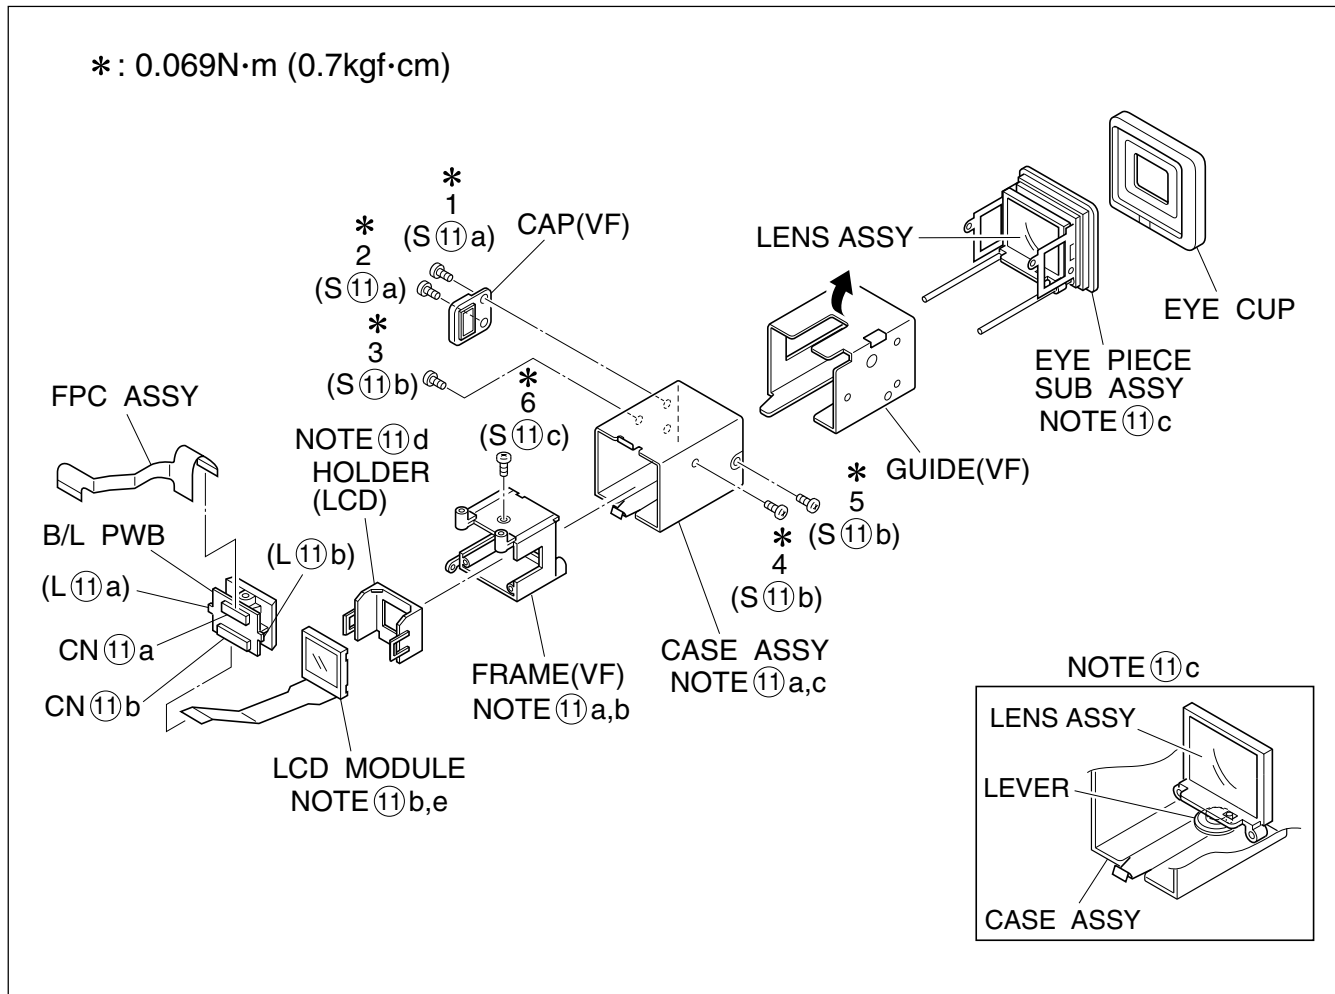

Fig. 1-5-1
NOTE ⑪b: Refer to Fig. 1-5-1 for the disassembly method.
Reference drawing	Fig.1-5-1